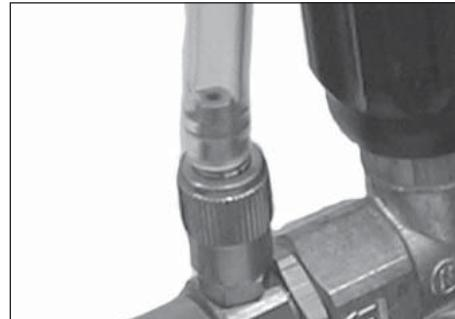

Figure 5 - Attach suction tube to barb fitting
- Slide clear plastic detergent hose onto brass hose barb (See Figure 5).